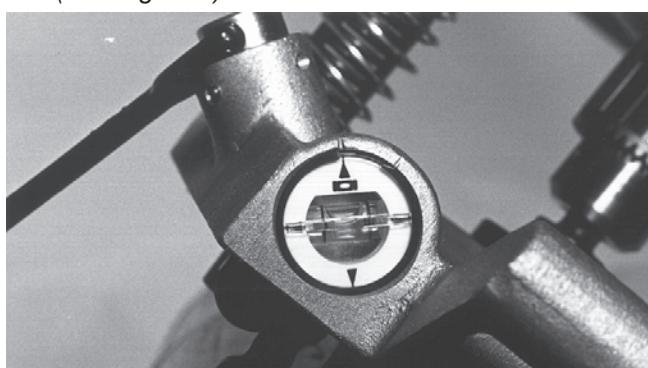

Figure 6 – HC-450 Hole Cutting Tool Level Vial
4. The base of the HC-450 Hole Cutting Tool includes a level vial that can be used to align a series of holes. When the Hole Cutting Tool is placed at the desired angle, the vial can be rotated to the level position, and subsequent holes can be made at the same angle by leveling the Hole Cutting Tool with the vial. (See *Figure 6*)